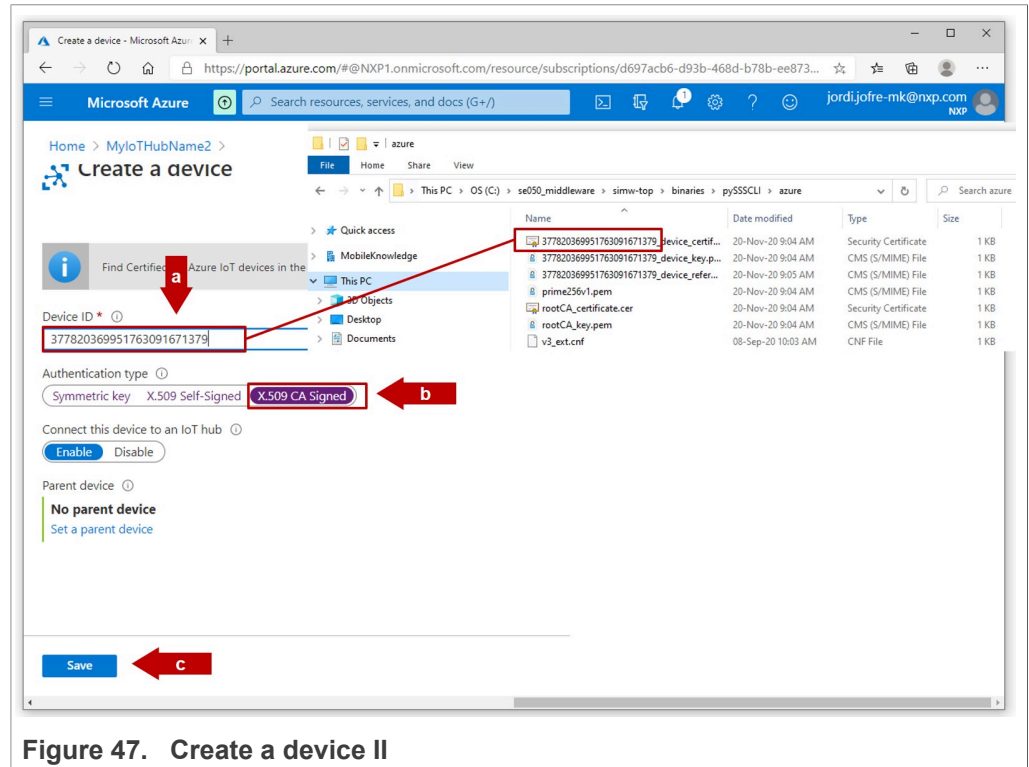

Figure 47. Create a device II
- a. As device ID, copy the 24 digits generated in the certificate credential in Figure 47